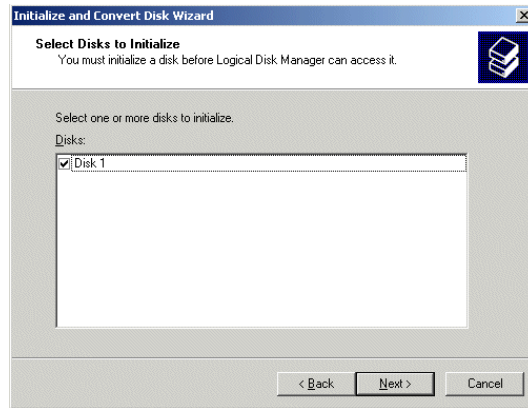

Figure 3-23
- 18) Click the **Next** button to be presented with the **Select Disk to Initialize** screen. Click the **Disk 1** item as shown in Figure 3-23.